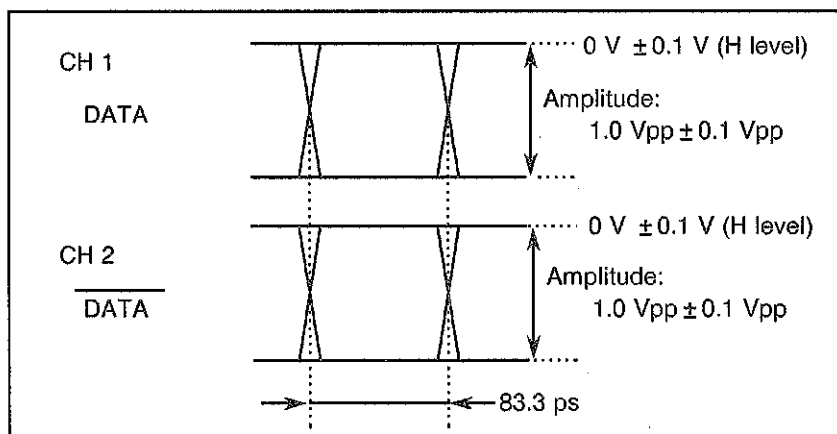

Figure 8-14 DATA,  $\overline{\text{DATA}}$  Output Waveform (TO 0V,  $f = 12000$  MHz)
- (8) Confirm that the waveform is eye patterns as shown in Figure 8-14.